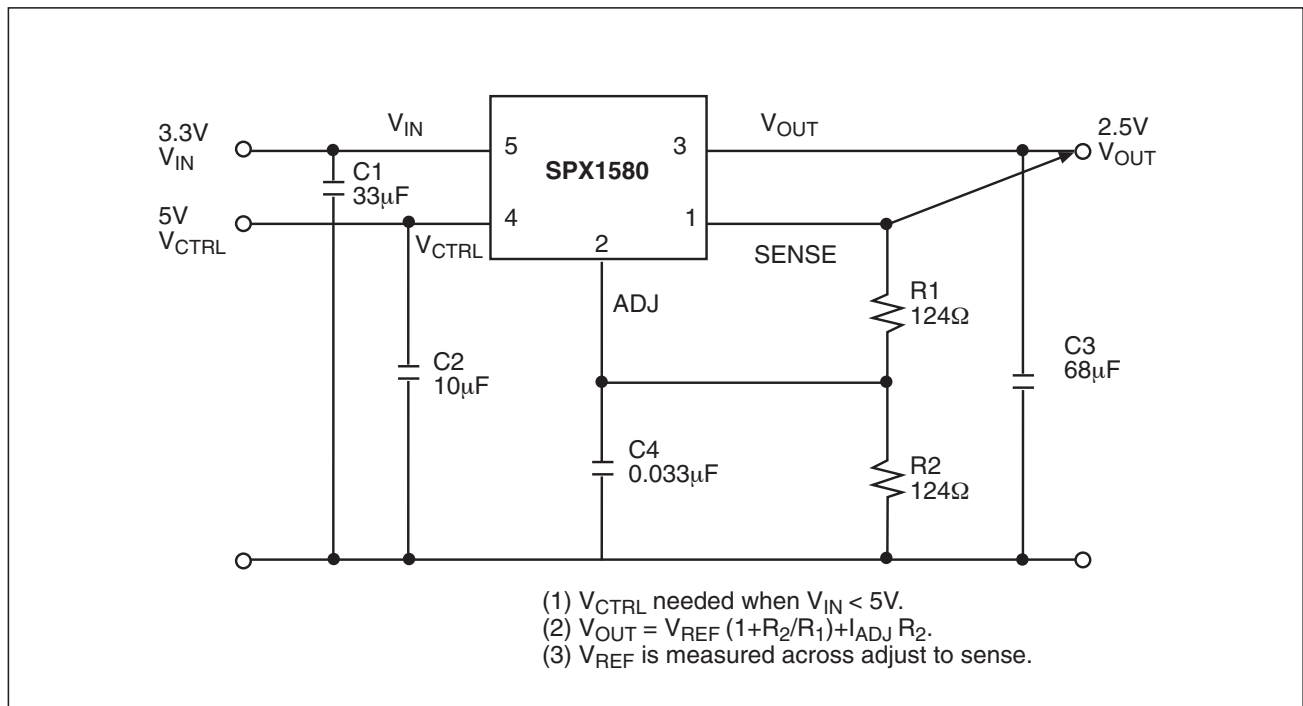

Figure 1. Adjustable Regulator.
1.25V reference voltage is being developed between the SENSE pin and the ADJ pin of the SPX1580. Adding two external resistors (see fig 1.) will allow setting the output voltage from 1.25V to 6V. R1 is chosen so that this current is specified minimum load current of 10mA. R2 is given by the formula:  $V_{OUT} = V_{REF} (1 + R_2/R_1) + I_{ADJ} R_2$ . The current flowing from the ADJ pin is typically 50µA. This ADJ pin contributes to the final VOUT but is usually neglected.